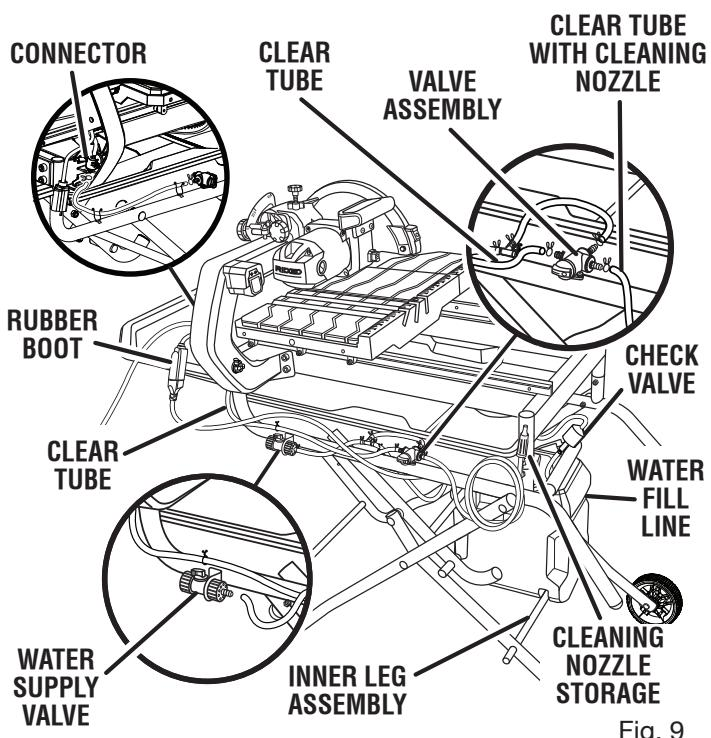

Fig. 9
See Figure 9.
- Push the short clear tube of the T-connector assembly over the connector on the back of the diverter valve (as shown in figure 9). Attach the long clear tube (with the check valve) to the submersible water pump and set the pump in the bottom of the water tank. Secure tube with hose clamps.